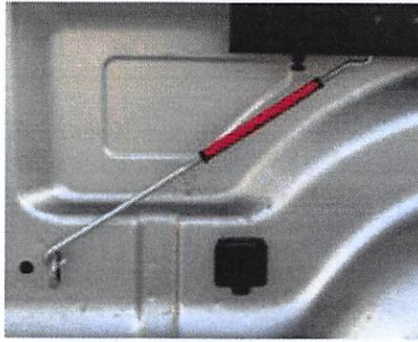

Figure 17: The turnbuckle properly installed onto the vehicle
Step 20: Repeat for the other side of the vehicle. Figure 17 shows the turnbuckles properly installed.